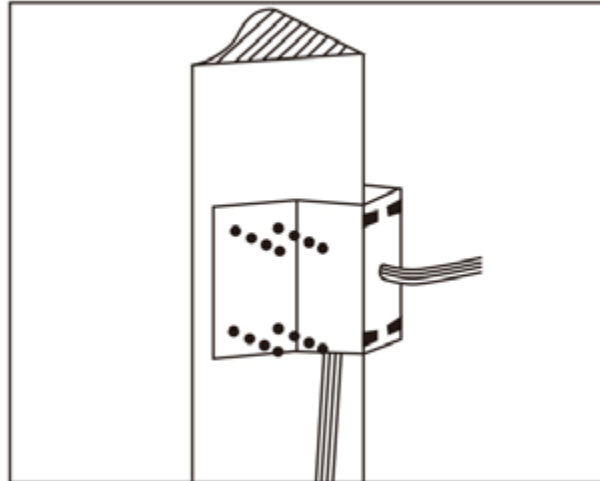

Fig. 6
b. As shown in Fig6, use M8 screw nut to fix the base of corner mounted on the wall with all cables through the center holes of the corner mounted, marine glue and bracket. Enough wiring length should be left.